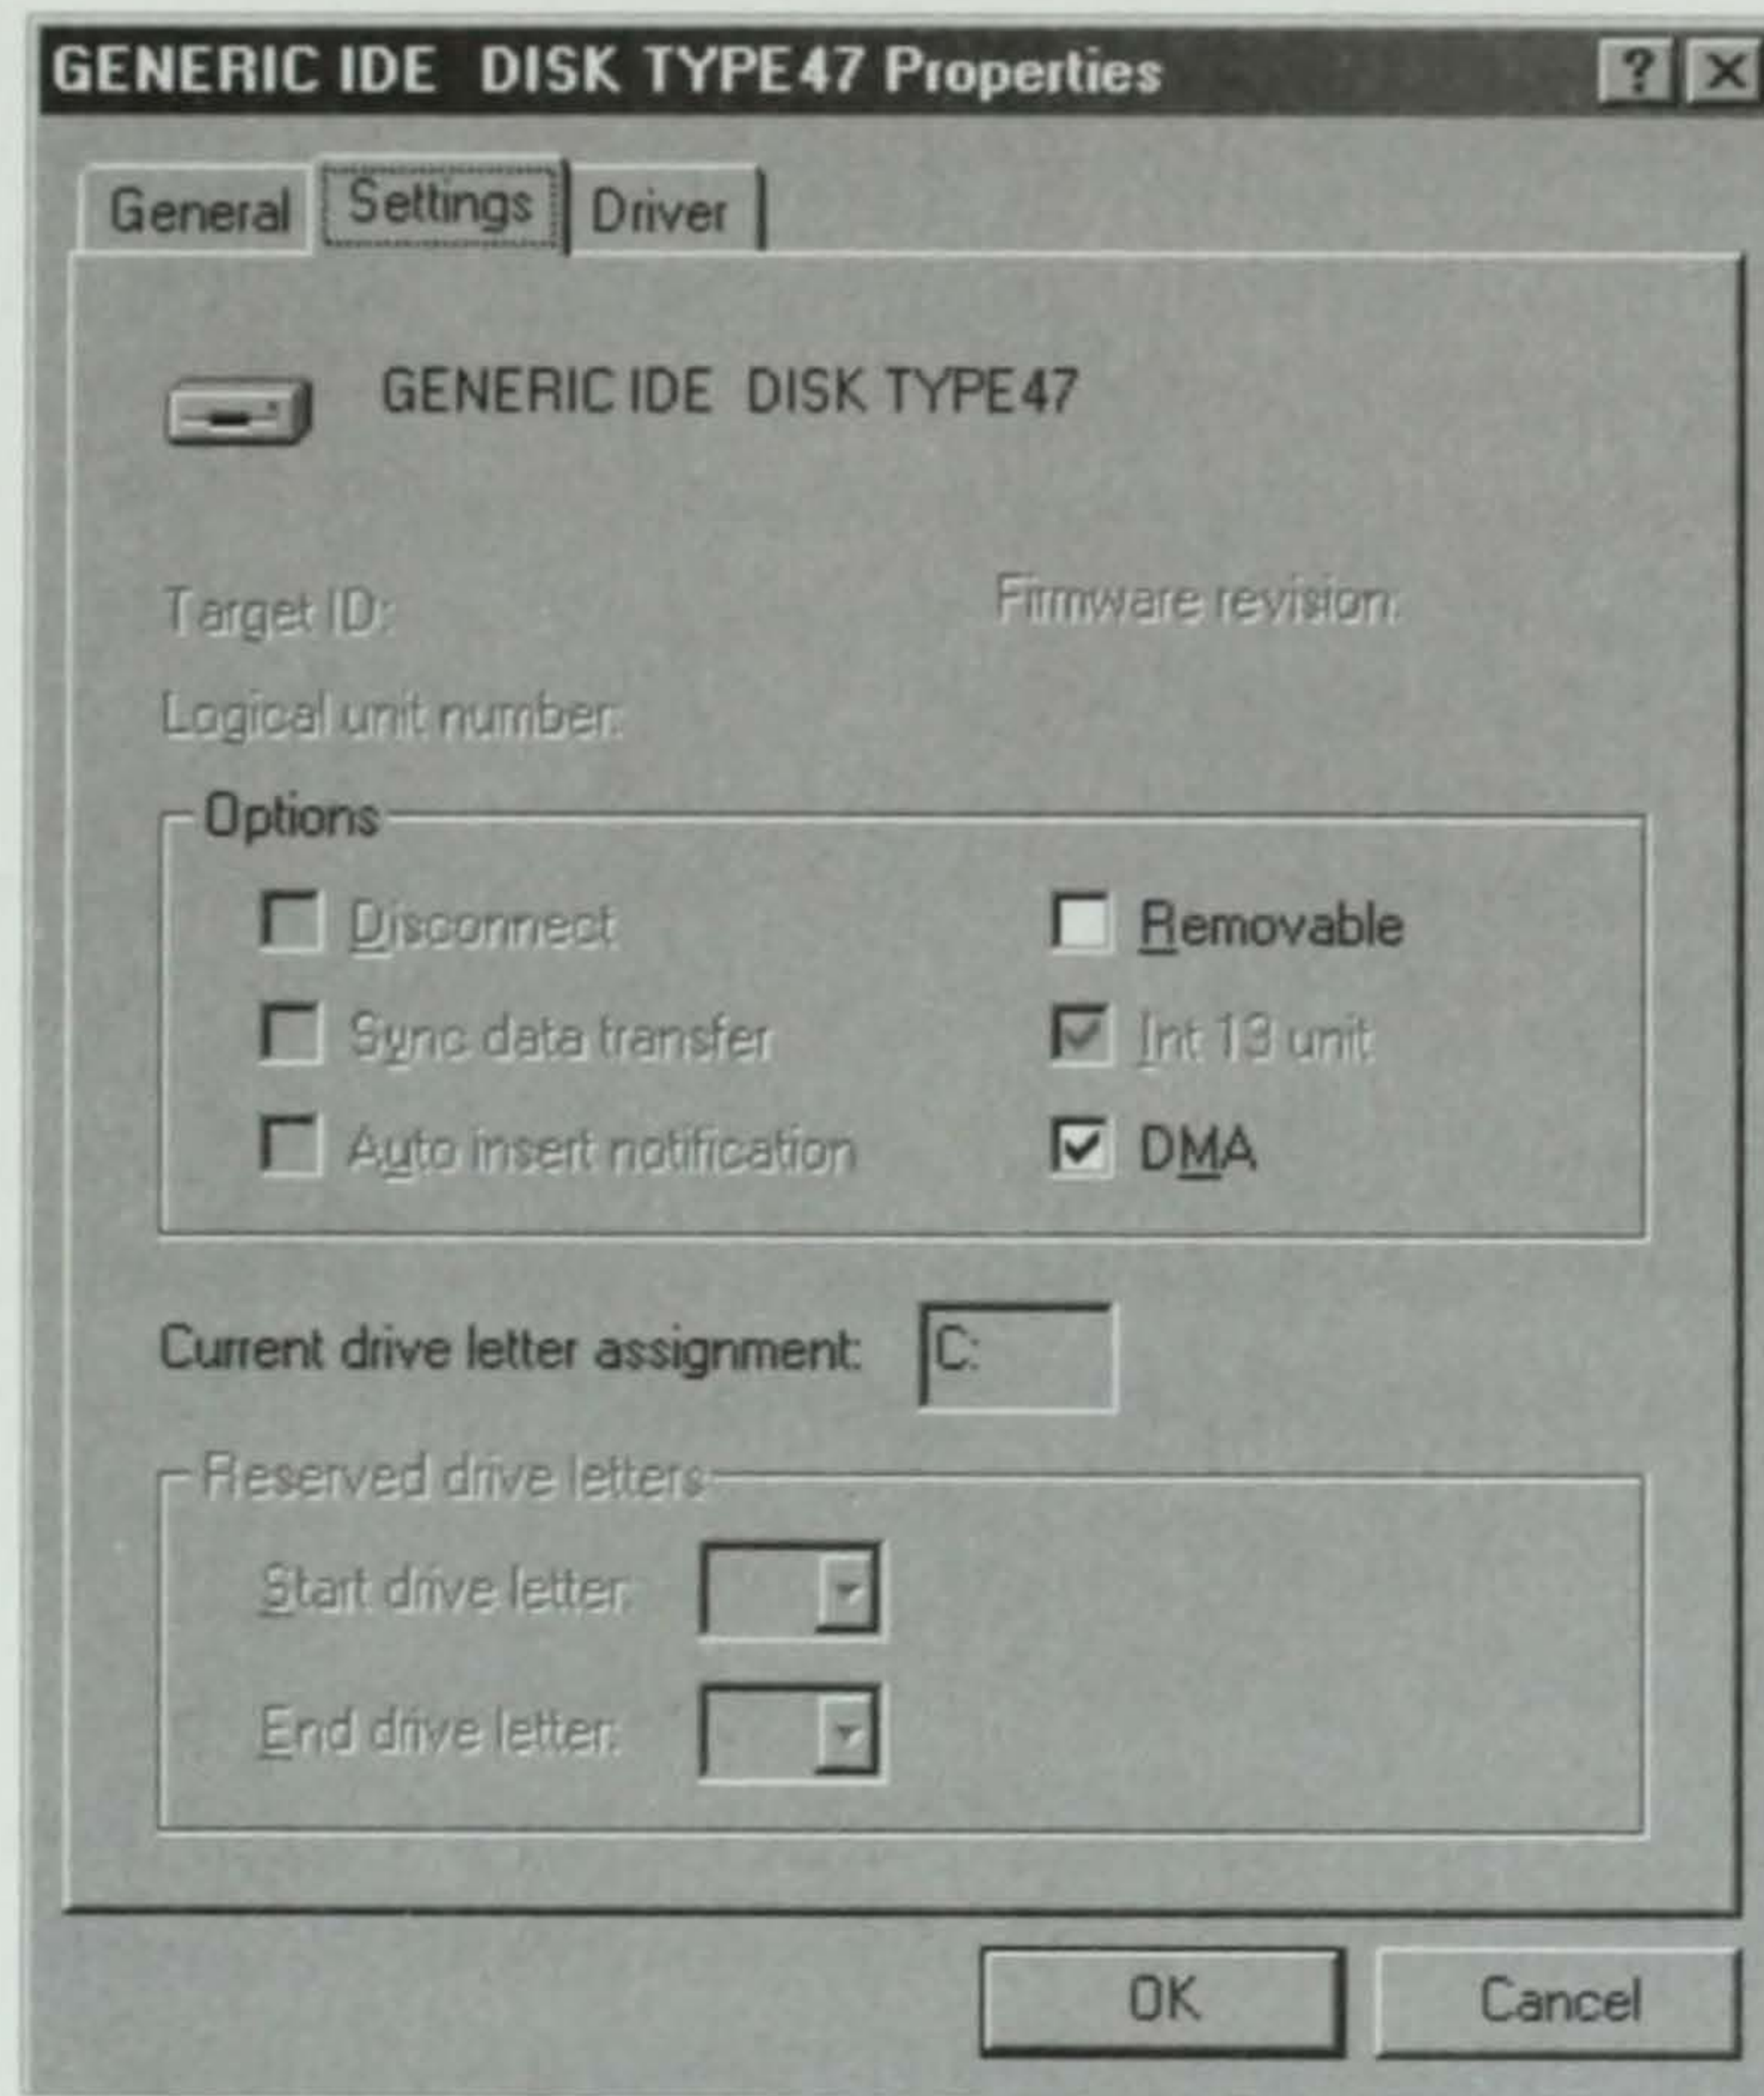

Figure 7.2 Device Manager/disk drives/Settings window.
4. Choose the Settings tab, and click on the DMA checkbox to enable it, as illustrated in Figure 7.2, then click OK to finish.